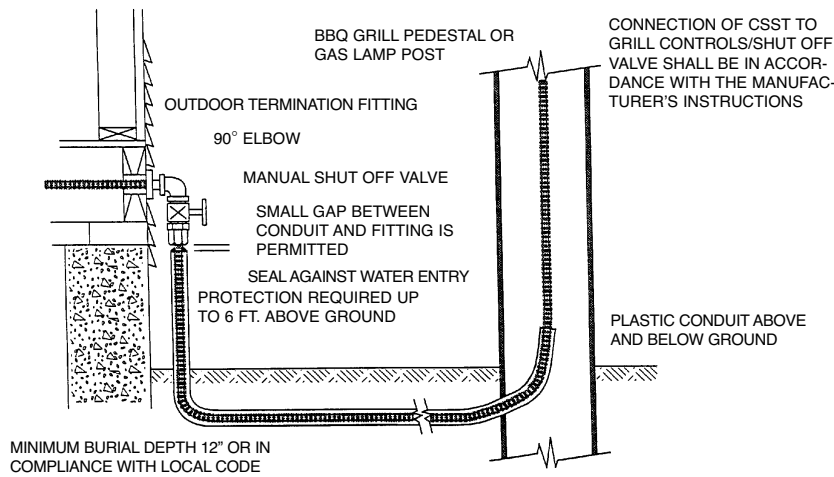

Figure 4.21
- Permanently mounted lights located on decks shall be connected to the WARDFLEX system the same as permanently mounted grills as shown in Figure 4.21 and in accordance with the manufacturer's instructions.
- Yard mounted lights shall be connected to the WARDFLEX system as shown in Figure 4.21. All WARDFLEX installed below grade shall be protected by nonmetallic conduit. Exposed ends shall be sealed against water entry from entering by wrapping two layers of tape (e.g. PVC, Silicone) or by applying shrink sleeves (e.g. PVC, Polyolefin).
- Movable grills shall be connected using an approved out door appliance connector which shall be attached to the WARDFLEX system at either a termination fitting as shown in Figure 4.21, or a quick-connect device, such as the M.B.Sturgis Model 3/375 shown in Figure 4.17. The M.B. Sturgis Model 3/375 outlet shall be installed in accordance with the manufacturer's instructions.